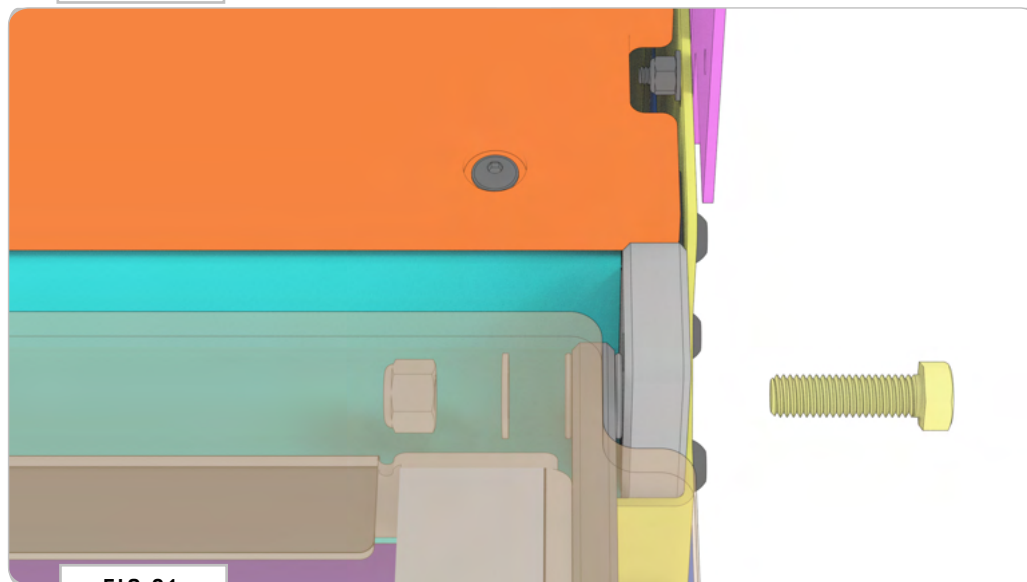

FIG 81
**6.2 Install Bed Frame to Hinge Side Cabinet:** Attach the **Bed Frame** to the **Hinge Side Cabinet** using (2) 1/2-13 x 1.75 Hex Head Bolt, Flat Washers and Nylon Locknuts (FIG 81).